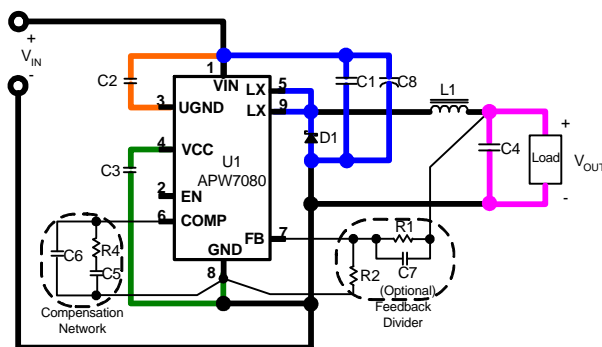

Figure 2 Current Path Diagram
In high power switching regulator, a correct layout is important to ensure proper operation of the regulator. In general, interconnecting impedance should be minimized by using short, wide printed circuit traces. Signal and power grounds are to be kept separate and finally combined using ground plane construction or single point grounding. Figure 2 illustrates the layout, with bold lines indicating high current paths. Components along the bold lines should be placed close together. Below is a checklist for your layout:
2. In Figure 2, the loops with same color bold lines conduct high slew rate current. These interconnecting impedances should be minimized by using wide and short printed circuit traces.